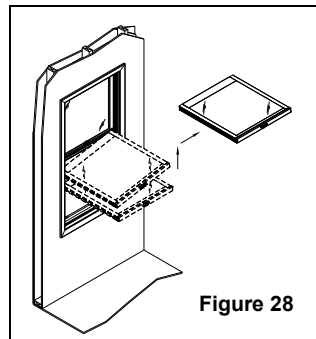

Figure 28
28. Rotate the sash counterclockwise until pins clear the jambs and remove sash. See figure 28.